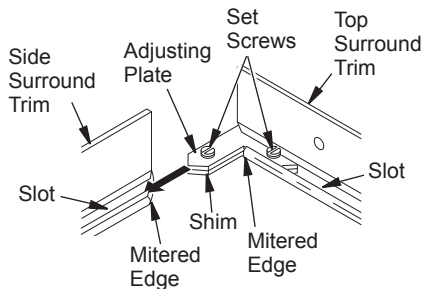

Figure 21 - Assembling Surround Trim
4. Slide one end of adjusting plate/shim in slot of top surround trim (see Figure 21).
5. Slide other end of adjusting plate/shim in slot on mitered edge of side surround trim (see Figure 21).
3. Align shim under adjusting plate as shown in Figure 21.